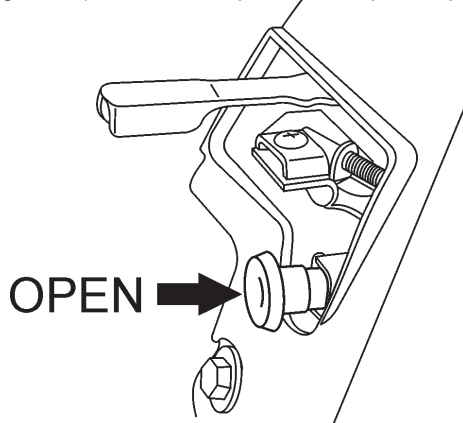

Figure 25. Choke Lever (Open Position)
3. If operating the Cutter 3 saw in **cold weather conditions**, skip this step and proceed to step 4. Place the **Choke Lever** (Figure 25) in the **OPEN** position. Skip to step 5.